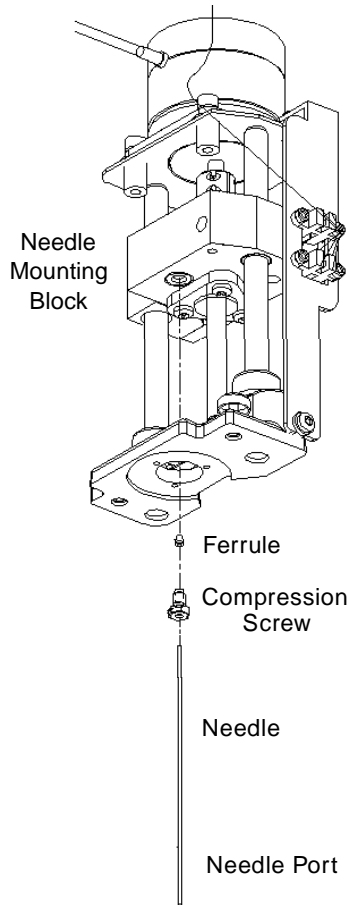

Figure 7-14 Replacing the Needle
1. Unscrew the compression screw on the needle (Figure 7-14).